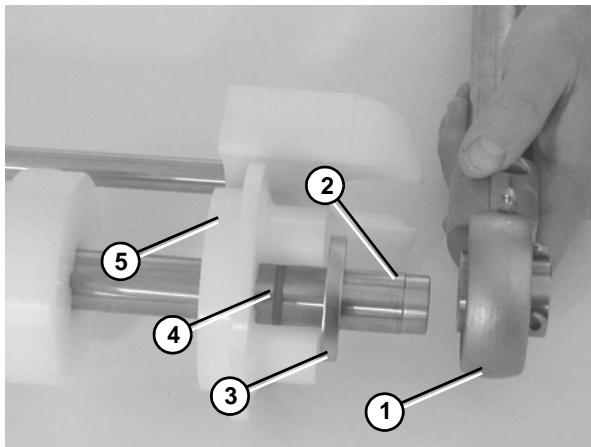

Figure 63
- Slide the bearing shaft assembly (**Figure 63, item 1**) washer off (**Figure 63, item 3**), O-ring (**Figure 63, item 4**), and flanged puck (**Figure 63, item 5**) off the idler shaft (**Figure 63, item 2**).